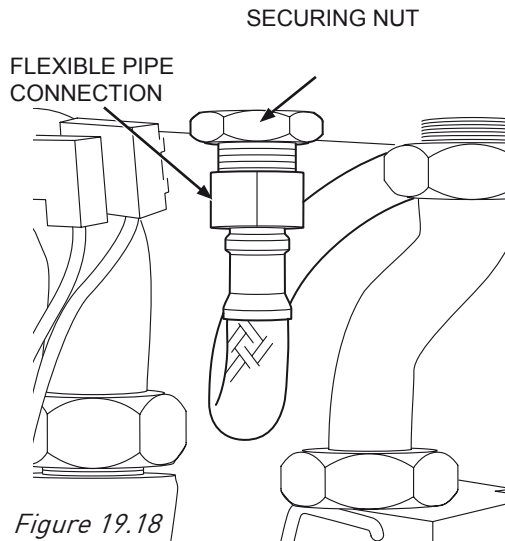

Figure 19.18
- Disconnect the pipe coupling on expansion vessel (Figure 19.18).